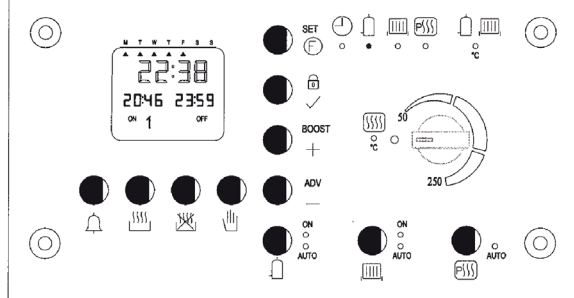

Fig. 4.5
3. The programs can be set for the individual days, for weekdays, for weekends and for the entire week. The days you wish to program for can be changed by moving the flashing arrow using the + and - buttons. **Fig. 4.4** shows the day setting for setting the same programme for Monday to Friday, **Fig. 4.5** shows it for setting the same programme for Saturday & Sunday and **Fig. 4.6** shows it for setting the same programme for the entire week.